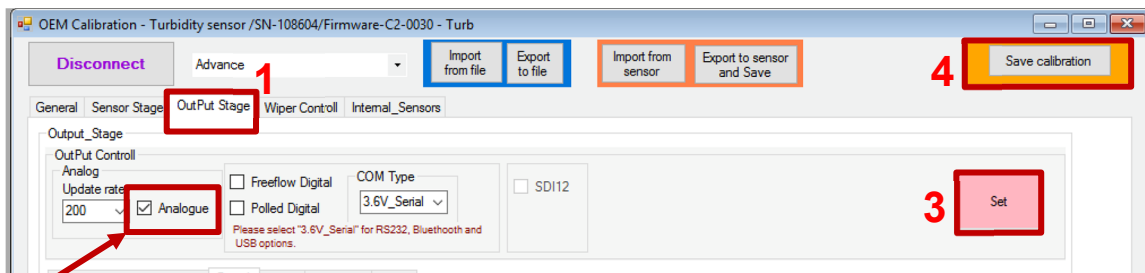

Figure 8.FF: Analog voltage selection
- Select “OutPut Stage” option (Figure 8.FF: Analog voltage selection#1).